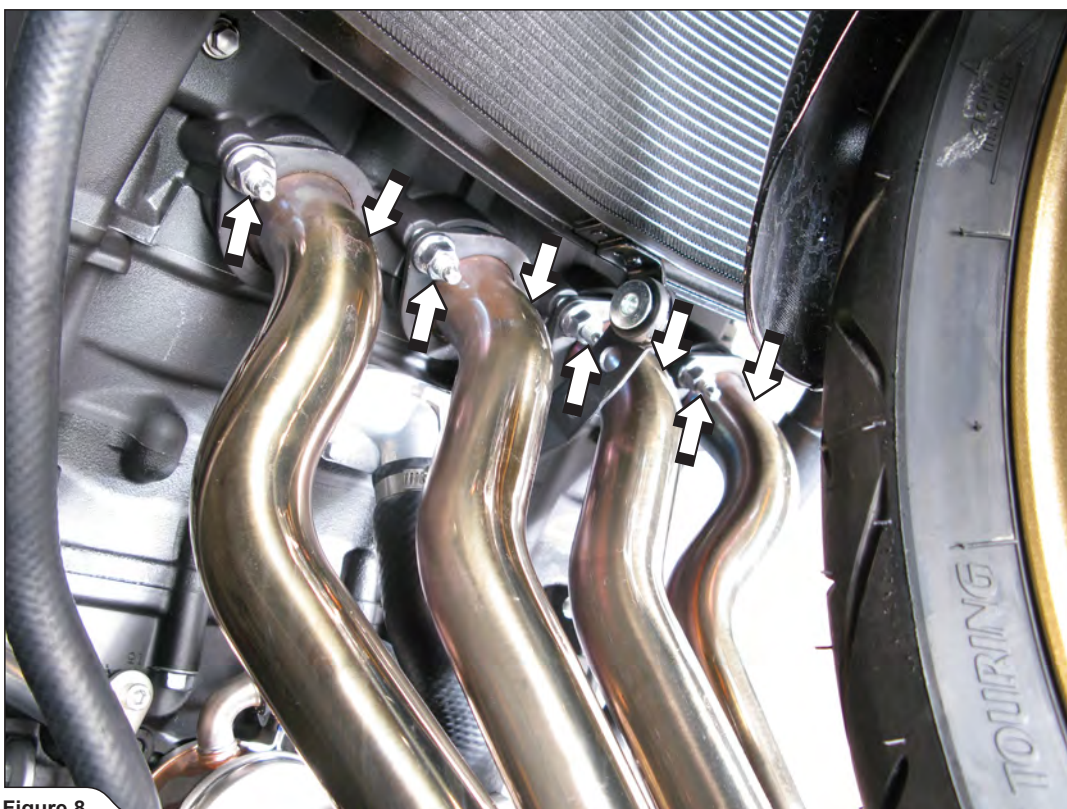

Figure 8
7. **For Akrapovič Racing only:** unscrew the flanges' nuts and remove the stock header pipes off the motorcycle (**Figure 8**).